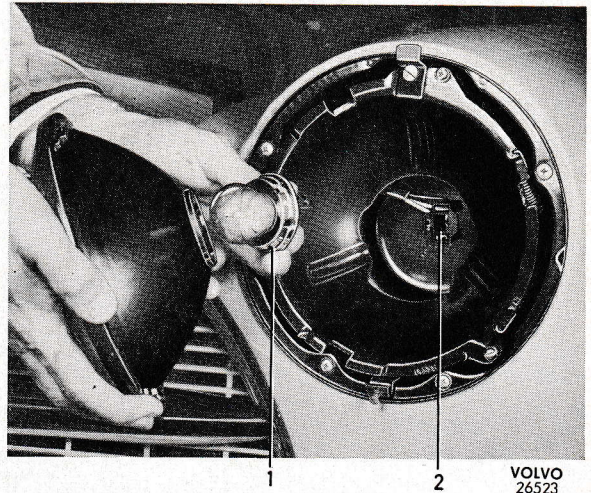

Fig. 70. Fitting the bulb.
3. Fit the new bulb. For asymmetrical headlights, this is done as shown in Fig. 70. For symmetrical inserts, the bulb is placed directly into the insert, after which the springs are hooked on. Do not touch the actual bulb glass with the fingers.